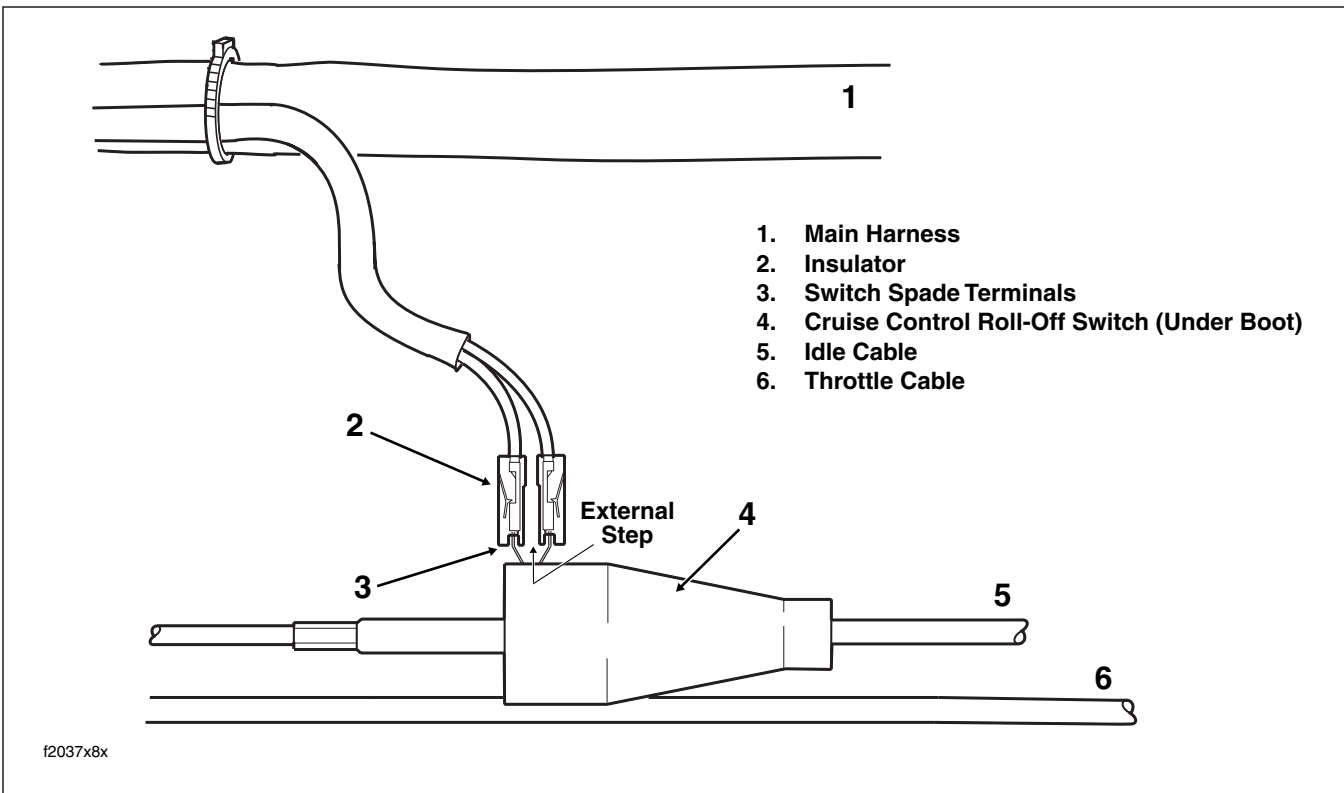

Figure 8-132. Throttle/Idle Cable Configuration (Right Side View)
4. Locate the cruise control roll-off switch plumbed into the idle cable on the right side of the frame backbone (just rear of the steering head). Push rubber boot on switch forward and remove insulators from switch spade terminals. See Figure 8-132.
that the external step on the insulators face each other. See Figure 8-132.